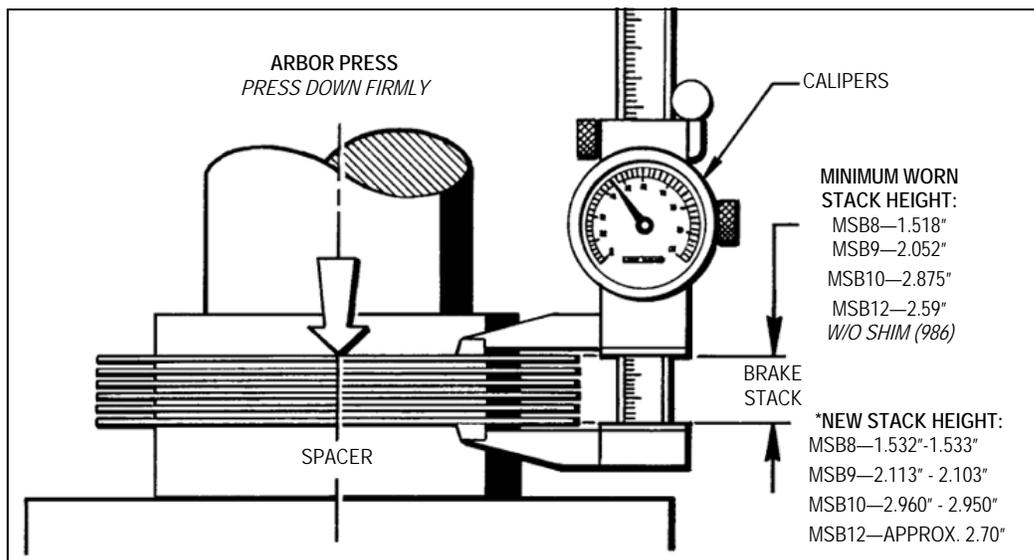
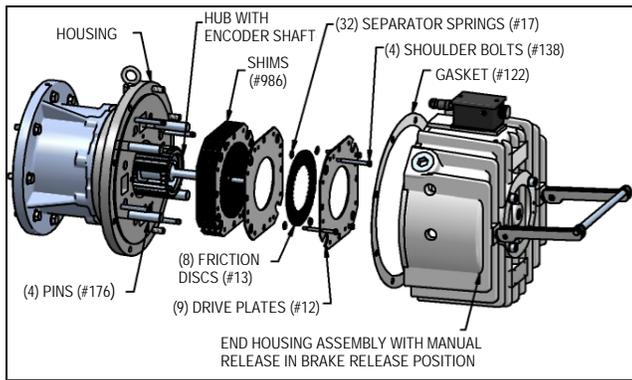

Figure 7.1 - Measuring Stack Height
Figure 7.3 - Removing MSB12 Brake Stack
The Stack Height must be measured to determine whether or not the Brake Stack needs to be replaced. If it measures under the Minimum Worn Stack Height then the Brake Stack needs to be replaced. (See Figure 7.1)
- rate measurement. (See section 7-4 and Figure 7.1)
4. Discard the brake stack (41) as required and replace with a new brake stack.
5. Measure and record the thickness of the new brake stack (41). Use blue locrite #242 on the threads of the 4 shoulder bolts of the stack assembly. Slide the new stack assembly over the splined hub (2) and dowel pins (176). The stack splines and the dowel pins (176) will have to be aligned individually to install the new stack (41). Tighten the 4 shoulder screws a maximum of 3 turns per screw alternating until the shoulder screws are tight to the input housing. Torque shoulder screws to **12 ft-lbs**.
6. Lubricate and install a new O-ring (121) into the groove on the end housing (9).
7. Slide the end housing (9) into place and attach with (8) SHCS's (72) and lock washers (127). Torque SHCS's (72) to **35 ft-lbs**.
3. Take the (2) Shoulder Bolts out and place the Brake Stack (#12) in an arbor press and measure the Stack Height to determine whether or not the Brake Stack (#12) needs replaced. (See Section 7-4 and Figure 7.1)
4. If the old Brake Stack (#12) needs replaced then take the new Brake Stack (#12) and remove the (4) Retaining Rings on the (4) Shoulder Bolts that holds the whole stack together. Discard these Retaining Rings they will not be needed.
5. If needed, install the (2) Guide Pins (#12) 180° apart into the Mounting Flange (#8). **Use Blue Loctite #242.**
6. Take the First Drive Plate from the Brake Stack (#12) and place it over the (4) Pins (#176) and the (2) Guide Pins (#12).
10. Install the (2) Shoulder Bolts (#12), using **Blue Loctite #242**, thru the two remaining holes in the Drive Plates (#12) into the Mounting Flange (#8).
11. Torque all (4) Shoulder Bolts to **14 Lb. Ft.**
13. Slide the End Housing (#9) into place and attach with (8) Lock washers (#127) and (8) Hex Nuts (#261). Torque these (8) Hex Nuts (#261) to 60 Lb. Ft. NOTE: There will be an extra Gasket (#121) and a Spacer (#60) between the End Housing (#9) and the Mounting Flange (#8) for Size MSB10.
(See Figures 7.3 , 7.4 and 8.2)
2. Unscrew the (4) Shoulder Bolts (#138) from the Housing (#8), but do not pull them out of the Brake Stack. Pull the complete Brake Stack including the (4) Shoulder Bolts (#138) off the (4) Pins (#176) and the Hub (#2) Spline. (See Figure 7.3)
**NOTE** - The complete Brake Stack consists of (9) Drive Plates (#12), (8) Friction Discs (#13), Shims (#986) if required, (32) Separator Springs (#17) and (4) Shoulder Bolts (#138).
3. Place all the Drive Plates (#12) and Friction Discs (#13) into an arbor press and measure the Stack Height to determine whether or not the Brake Stack needs replaced. **See previous Section 7-4 and Figure 7.1.**
3. Measure the new Brake Stack in an Arbor Press as shown in Figure 7.1. This gives **Dimension “B”.**